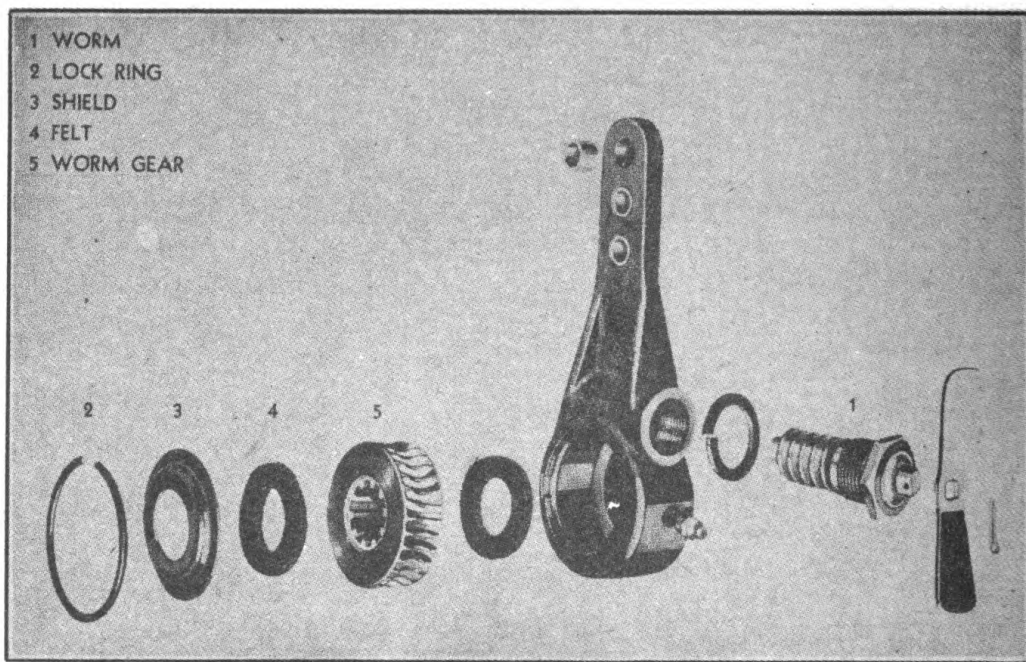

FIGURE 24. SLACK ADJUSTER—EXPLODED
(1) *Replacing worm and worm gear* (Figure 24).—(a) Remove the worm (1) at the wing wrench adjuster by turning out on the hex nut holding it in position.